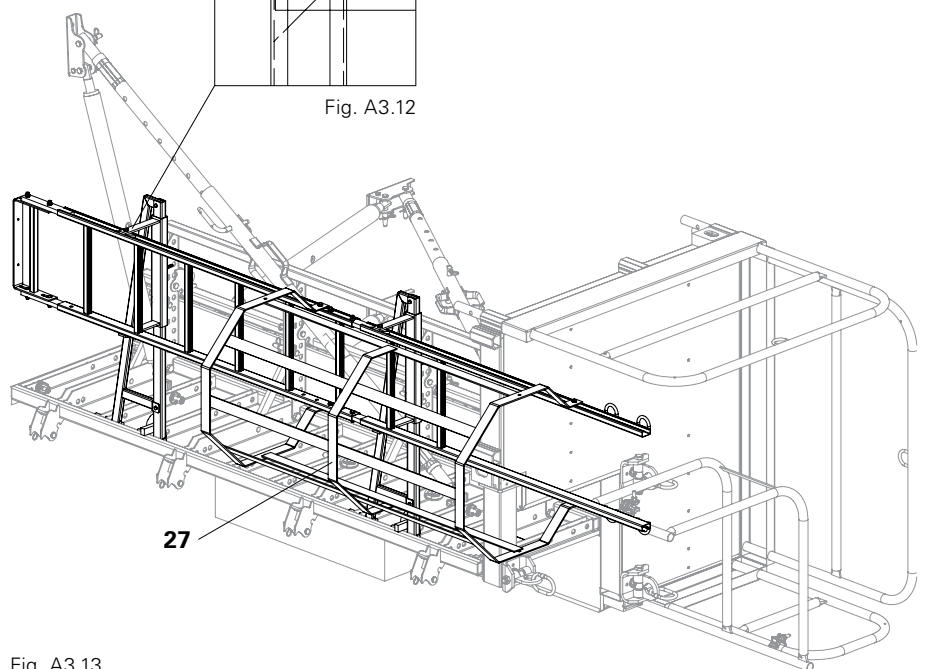

Fig. A3.13
6. Attach Ladder Safety Cage 150 (27) using clamping plates to Access Ladder 180/2 and Ladder 180/6 using an overlapping ladder joint, SW 19. (Fig. A3.13)